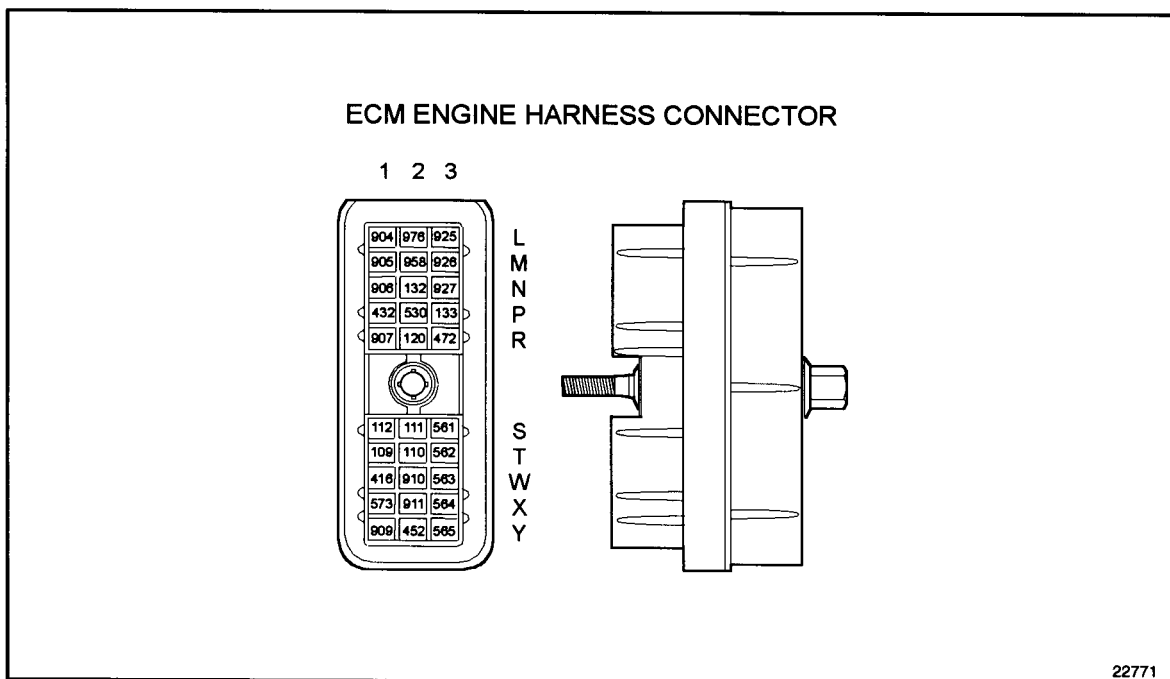

Figure 27-5 ECM Engine Harness Connector
3. Measure resistance between sockets N2 and Y2 on the engine harness connector. See Figure 27-5.